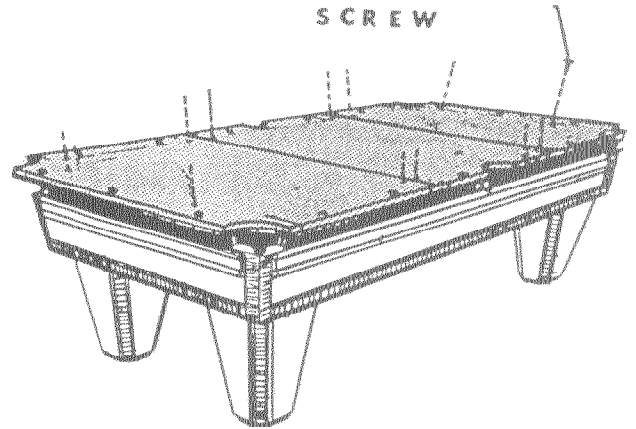
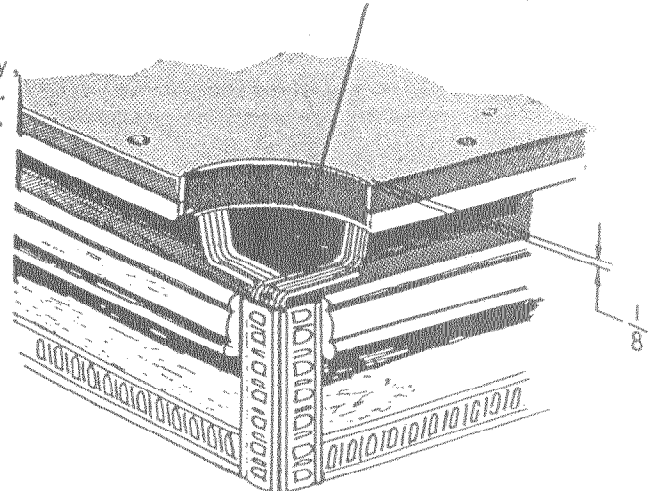

Fig. 6
Fig. 7
13. Place a straight edge across the three (3) slate sections and check for flatness. Shim stock may be added between the end slate frame sections and base frame to obtain flatness. With the table completely level and the surfaces flat, slate cracks, chips, screw holes and slate joints may be filled with fast setting Plaster of Paris. Allow the plaster to dry, then sand smooth. Thoroughly clean the slate surface with brush and dust cloth. (Figure 6) Install the cloth reinforcement pieces as follows. Apply a coat of BruBaCol Adhesive on all slate pocket openings. Cement the reinforcement strips to the slate, as shown in Figure 7. Allow the cement to dry, then sand edges of pocket openings to eliminate sharp edges. (Figure 7) Break the edge around entire periphery of slate.